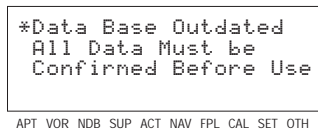

Figure 3-56
1. Press the **MSG** button. The MSG page will appear and show the new message (figure 3-56).